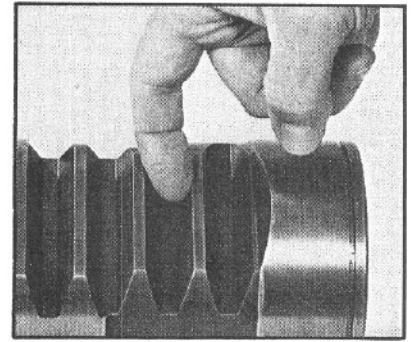

Figure 78
1. Inspect the rack piston (31) teeth for cracks and wear. If you can detect a step by running your fingernail horizontally across the teeth surface, you must replace both the rack piston and sector shaft (50) (FIG. 78).